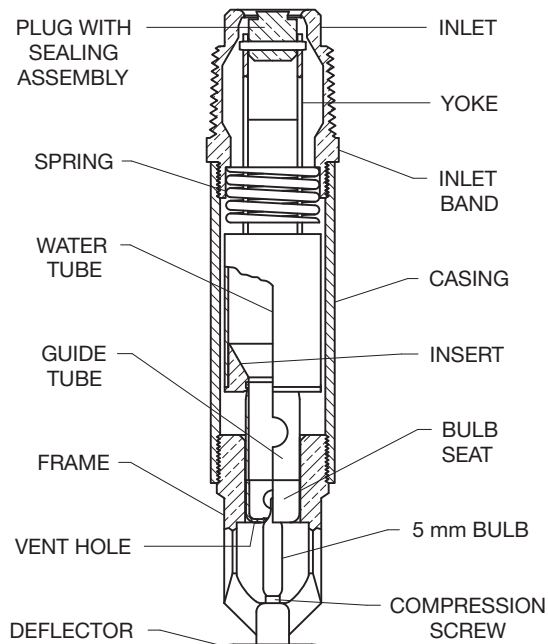

FIGURE 1
When TYCO Series DS-1 5.6K Pendent, Upright, and Horizontal Sidewall, Standard Response, Standard Coverage Dry-type Sprinklers are in service, water is prevented from entering the assembly by the Plug with Sealing Assembly (Ref. Figure 1) in the Inlet of the sprinkler.
- a pipe wrench on the Inlet Band or the Casing (Ref. Figure 1)
A Vent Hole is provided in the Bulb Seat (Ref. Figure 1) to indicate if the Dry Sprinkler is remaining dry. Evidence of leakage from the Vent Hole indicates potential leakage past the Inlet seal and the need to remove the sprinkler to determine the cause of leakage; for example, an improper installation or an ice plug. Close the fire protection system control valve and drain the system before removing the sprinkler.